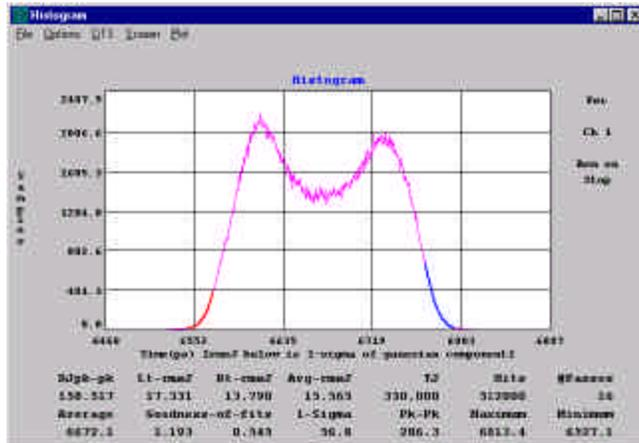

Figure 2.1 – Histogram Tool with tails highlighted.
Spectrum Tool has now become Histogram Tool. The biggest change for this tool is the inclusion of TailFit™ for reliability modeling. Figure 2.1 shows a typical Histogram Plot with the TailFit™ modeling overlaid on the distribution. Notice the Red and Blue high lighting on the extremes of the distribution. These are the sections of the distribution plot that are fitted for Random Jitter (RJ) estimation. This is the basis for the overall reliability modeling. Figure 1.2 is the bathtub curve that is generated based on the histogram in Figure 2.1